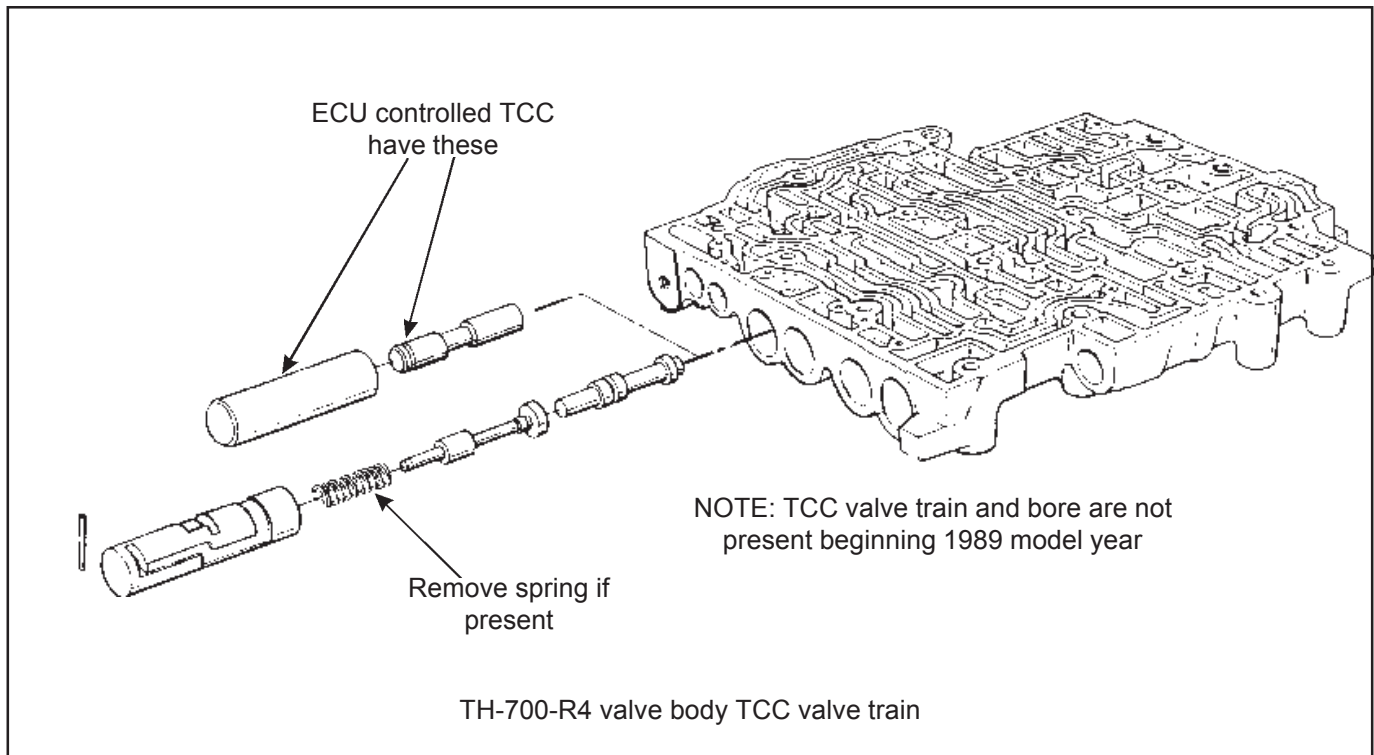

Figure 2
**B&M's Converter Lock-Up Control** is especially suited for controlling the lock-up clutch in vehicles with custom transmission installations which were not originally manufactured with a torque converter clutch equipped transmission. Custom transmission installations utilizing early model transmissions with valve body controlled lock-up (TH-200-4R, TH-700-R4) speed may require some modification to operate correctly. In these cases consult the appropriate factory service manual to locate the converter clutch shift valve train in the valve body. Deactivate the converter clutch shift valve by removing the spring holding the valve train in the **OFF** position. This will allow the converter clutch shift valve to move to the **ON** position and ensure that control pressure is always available at the converter clutch apply valve after the first gear shift. A TH-700 converter clutch shift valve train is shown in **Figure 2** as an example. It may also be necessary to remove the oil pan and identify which kind of solenoid and wiring scheme is used on your